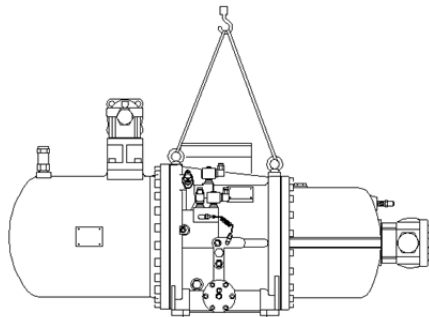

Figure 1 -Lifting Compressor with Steel Cable
- 1.3. Use either steel cable or safety ropes to lift the compressor, see Figure 1. The cable should be capable of holding up to a minimum of 2 tons.